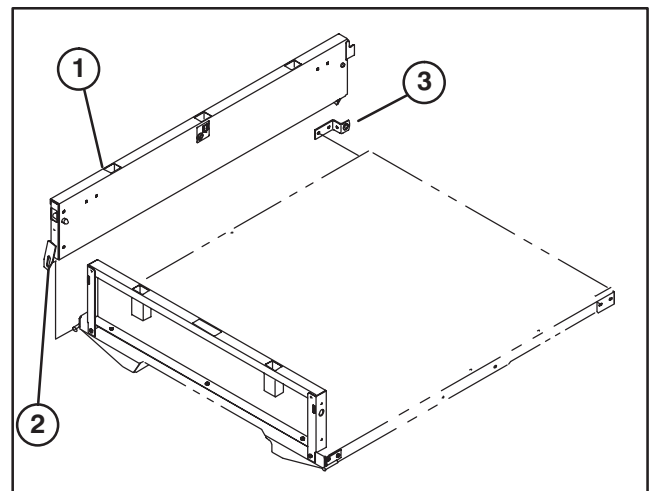

Figure 4
4. Position right side panel on bed while sliding front tab over front pivot bracket (Fig. 4).
5. Insert right rear pivot bracket into tab at rear of right side panel while securing it to side and rear of bed with (3) 5/16-18 x 7/8" lg. capscrews and flange (Toplok) locknuts (Fig. 4).